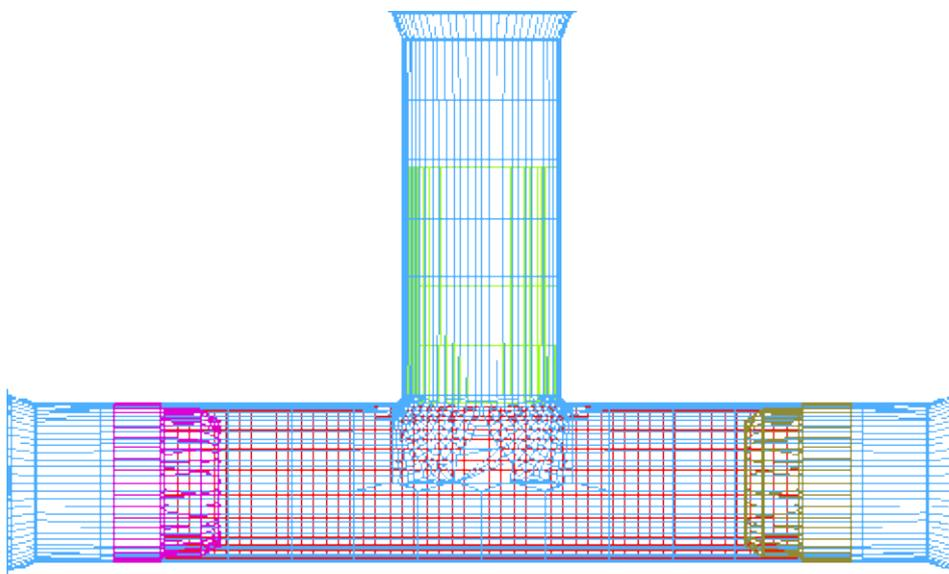

Figure 3.30 The relative position of tools and tube after positioning
5. Click  icon on the **Icon bar** to display the relative position of tools and tube, as shown in Figure 3.30.